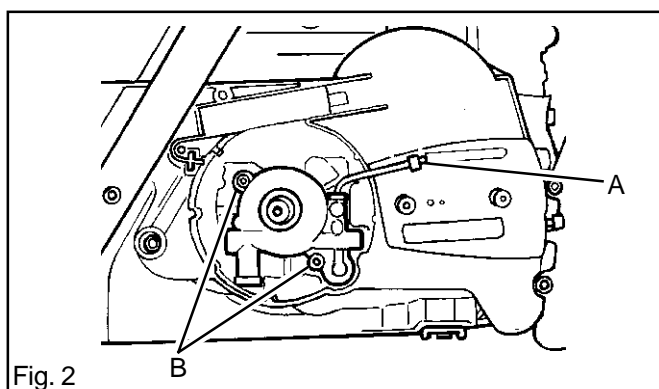

Fig. 2
4. Grease in the needle bearing before fitting. Fit the clutch drum (C) with needle bearing (D) and chain drive sprocket (E). See fig. 2 page 24.
5. Fit the washer and locking ring (B). See fig. 2 page 24.
4. Remove the two bolts (B) and lift up the oil pump from the crankcase. See fig. 2.
5. Use a screwdriver to push up the oil pipe at A. Lift up the pipe and pull it out of the oil pump. See fig. 2.
6. Fit the oil pump in the crankcase. Fit the oil pipe with seals. See fig. 2 page 28.
7. Tighten the bolts to 5 Nm. See fig. 2 page 28.
- The mixing venturi, B in fig. 2.